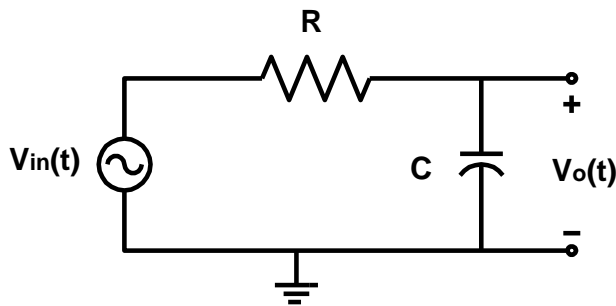

Fig. 2. First order low-pass filter (integrator)
1. For the circuit shown in Fig. 2, derive the transfer function for v_o/v_{in} in terms of R , and C , and find the expressions for the magnitude and phase responses. Express your results in the form
- Build the circuit shown in Fig. 2 with the values of R and C you choose in the pre lab. Apply a 6 Vpp sinusoidal signal from the function generator to the input and use the high Z option on your signal source (ask you TA for assistance).